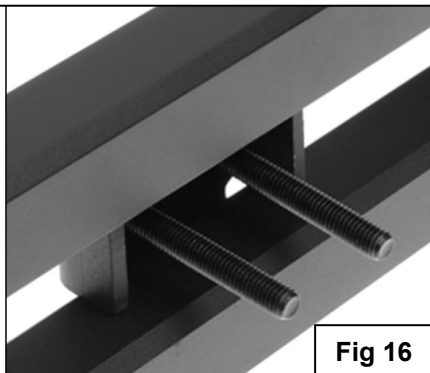
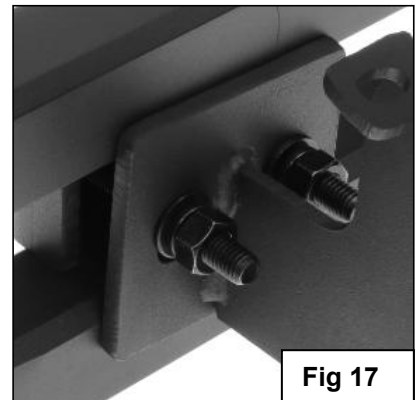

Fig 16
Fig 17
11. Select the Driver Side Bar. Slip (2) M10X1.5-75 Carriage Bolts into each 2-Hole Support Brackets ,and insert the 2-Hole support bracket into the Driver Side Bar.**(Fig 16)**. Carefully position the Bar onto the (3) Mounting Brackets. **IMPORTANT:** Do not slide the Bar on the Brackets or damage to the finish may result. Attach the Driver Side Bar to the Mounting Brackets with (2) M10 Hex Nuts,(2)M10 lock washers and (2)M10 flat washers, **(Fig 17)**. Do not tighten hardware.